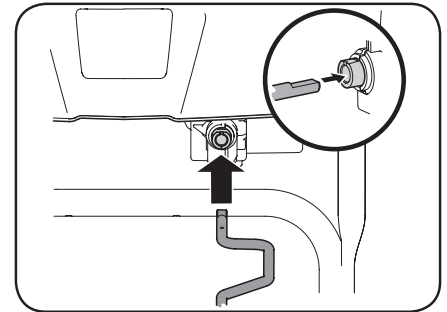

Figure 2-40
5. Insert other end of chute control rod into coupler below handle panel. Make sure to line up flat end of rod and flat end of coupler. You may need to rotate rod around until these two surfaces line up. See Figure 2-40 inset.